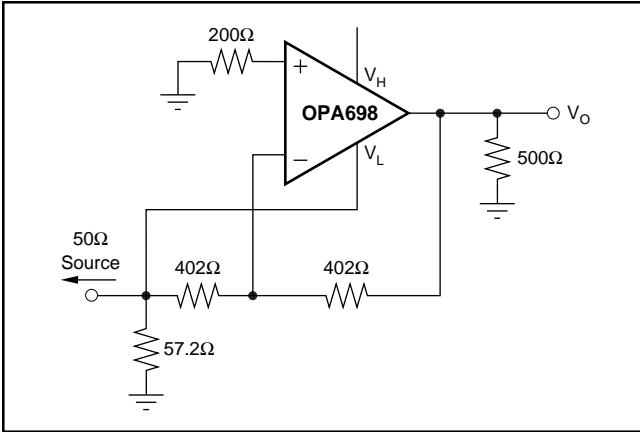
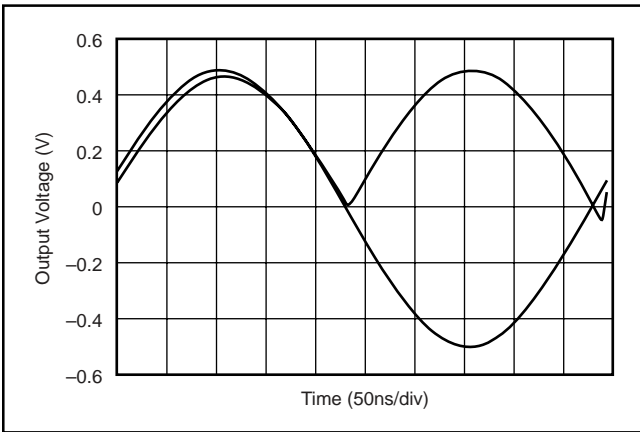

FIGURE 9. High-Speed Full Wave Rectifier #1.
FIGURE 10. 2MHz Sinewave Rectified.
(7) Limiter feedthrough is the ratio of the output magnitude to the sinewave added to  $V_H$  (or  $V_L$ ) when  $V_{IN} = 0$ .
(9) Linearity Guardband is defined for an output sinusoid ( $f = 5MHz$ ,  $V_O = V_{CM} \pm 1V_{PP}$ ) centered between the limiter levels ( $V_H$  and  $V_L$ ). It is the difference between the limiter level and the peak output voltage where SFDR decreases by 3dB (see Figure 9).
The circuit shown in Figure 9 uses only one amplifier, in an inverting gain of  $-1$  configuration. The upper limiting voltage is left open, resulting in an upper limiting voltage of  $+3.5V$ . The lower limiting voltage is connected to the input signal, resulting in the following behavior. When the input voltage is negative, the amplifier is not limiting, resulting in the inversion of the input sinewave to the output. During the positive excursion of the input signal, the output signal is being driven by the limiting input pin. Since the output is driven from the limiter input pin from positive inputs, the lower slew rate in the input path restricts the application of this approach to lower amplitude and/or frequencies. A 2MHz fully rectified sinewave is shown in Figure 10.